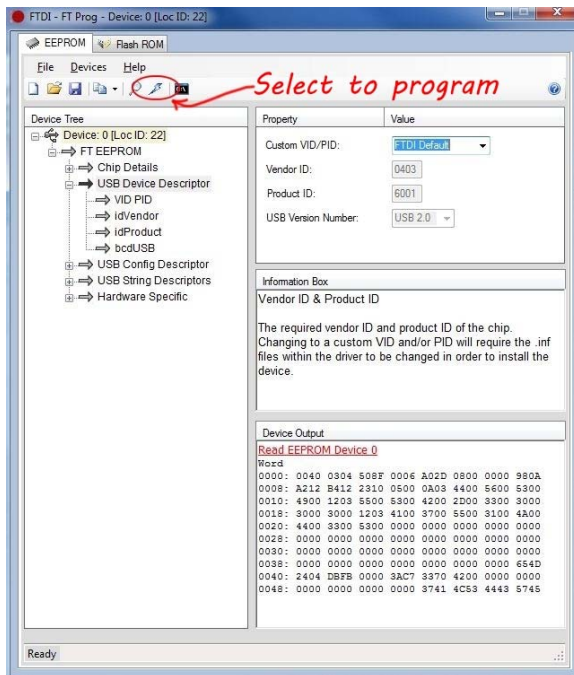

Figure 6 Program default settings to device
Step 7. To set the Product ID value onto the USB-3000™ select the program icon (the lightening bolt in the toolbar). See Figure 6 Program default settings to device